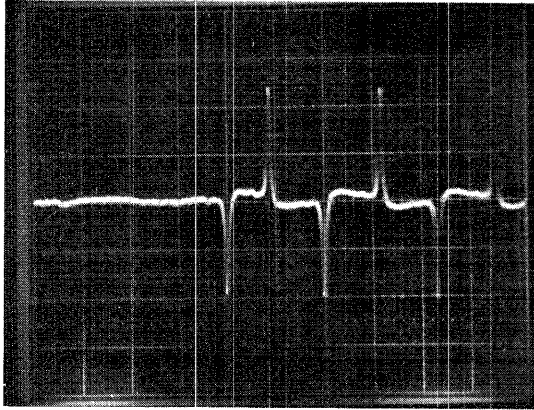

FIGURE 10. INDEX TIMING
- g. Observe the timing between the start of the sweep and the first data pulse. This should be  $200 \pm 100 \mu$ sec. If the timing is not within tolerance, continue on with the adjustment. Reference figure 10.